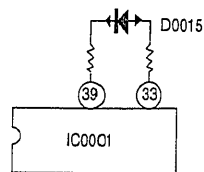

Fig. 1-4-1-1.
- Connect the jig D0015 between IC0001 pin ③③ and pin ③⑨. See Fig. 1-4-1-1.